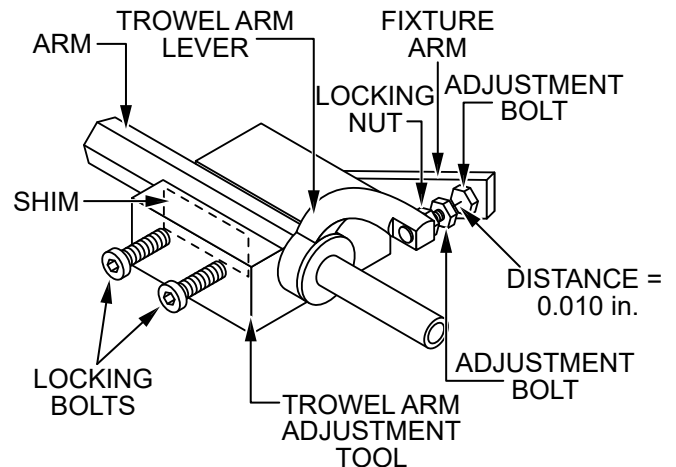

Figure 53. Trowel Arm Adjustment
4. Unscrew the **locking bolts** on the adjustment tool and place the **trowel arm** into the fixture channel as shown in Figure 53. A thin **shim** may be required to cover the blade holes on the trowel arm. Make sure to align the **trowel arm adjustment bolt** with the **fixture adjustment bolt**.
5. Tighten the **locking bolts** (Figure 53) with an Allen wrench to secure the trowel arm in place.
6. Loosen the **locking nut** on the **trowel arm lever** (Figure 53), then turn the **trowel arm adjustment bolt** until it barely touches (**0.010"**) the **fixture adjustment bolt**.